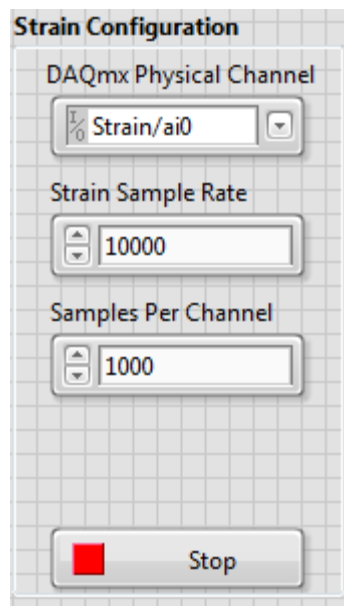

Figure 20. A good rule of thumb is to set the number of samples to $1/10^{\text{th}}$ of the sample rate.
36. Set the *Strain Sample Rate* to 10000 Hz and the *Samples Per Channel* to 1000, like in Figure 20.